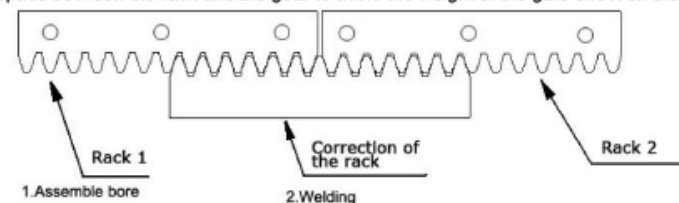

Fig 12
2. Gear rack length depend on gate length, each gear rack is 1 metre. Put one end of rack on the output gear of motor as a temporary support. Make the rack horizontal and mark the rack mounting holes (three holes) on the gate. (Fig 12)